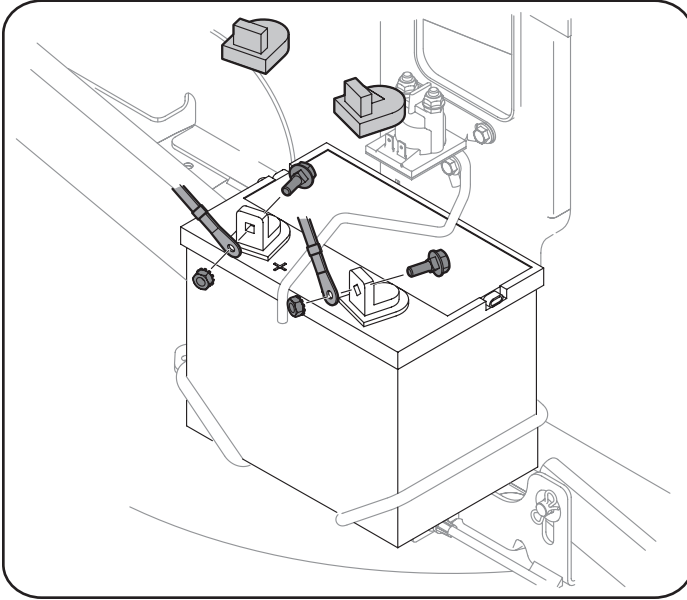

Figure 15
3. Remove the plastic cover, if present, from the negative battery terminal and attach the black cable to the negative battery terminal (–) with the remaining hex bolt and hex nut, using a 7/16 inch wrench and socket wrench. See Figure 15.